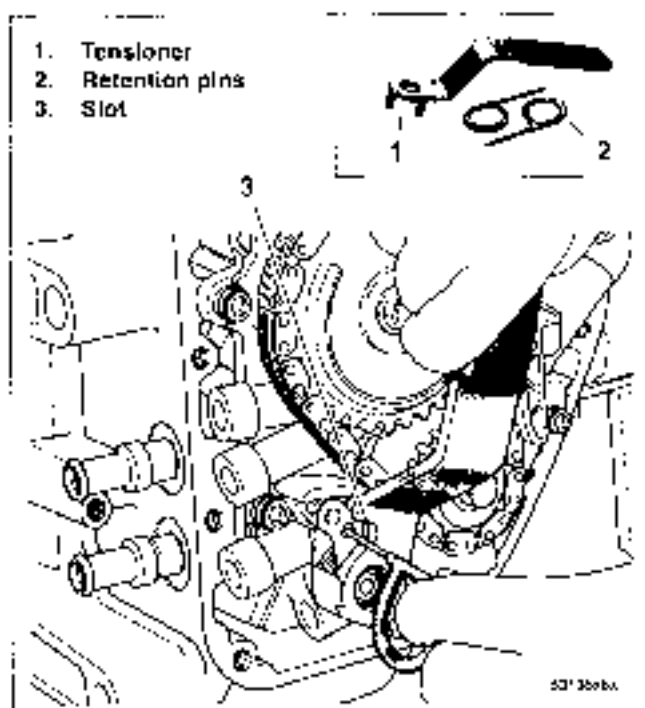

Figure 3-53. Retract Rear Cam Chain Tensioner
6. Use **CAM CHAIN TENSIONER UNLOADER** (Part No. HD-42313) to retract primary cam chain tensioner (6).
- a. See Figure 3-53. With the handle pointing toward the front of the cam support plate, place end of tool over spring coil. Correctly positioned, the slot (3) in the tool should be adjacent to the hole in the tensioner.
- c. Insert a retention pin (2) through the hole in the tensioner and into the hole in the cam support plate.